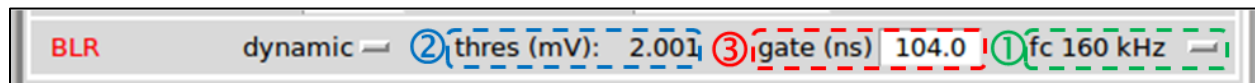

Figure 20: Dynamic BLR parameters.
The signal from the previous filter module is filtered by a new low-pass filter. This tracking filter lets through any slow variations of the signal. The **cut-off frequency “fc”** ① (Figure 20) of this low-pass filter is 20 kHz, 160 kHz, 640 kHz or 6600 kHz. It is a first order low-pass filter.
The baseline tracking by the low-pass filter is stopped when an event is detected. That means when the cleaned **signal after BLR exceeds a “± threshold” parameter value** ② (Figure 20). Then the baseline tracking stops while the value of signal samples is above the threshold and after a **duration defined in the “gate” parameter** ③ (Figure 20). Thus, the signal tracking is stopped during all the signal duration. When the baseline tracking is stopped, the computed baseline value is set to the baseline value just before the detected event. In case of pile up, the computed baseline value is equal to the baseline value just before the first detected event.